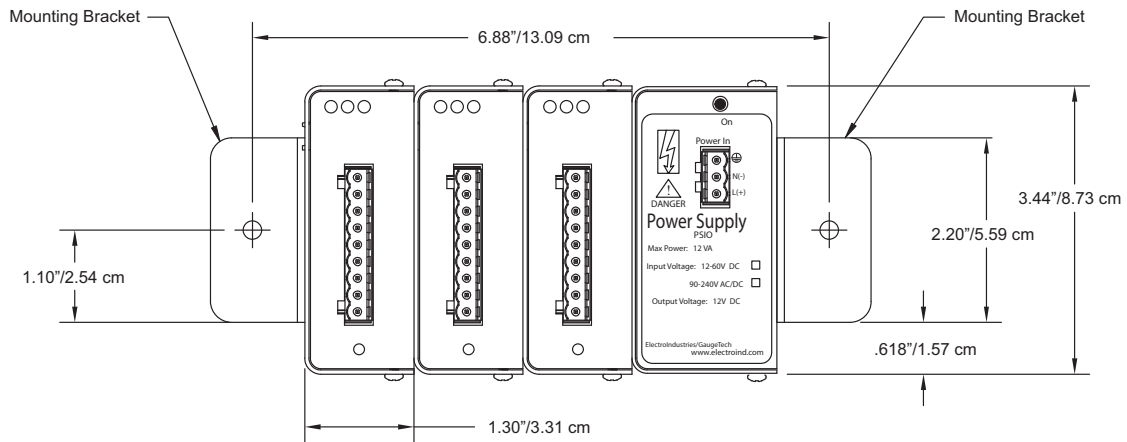

Figure 6.26: I/O Modules Mounting Dimensions, Front View
**IMPORTANT!** The Nexus® 1262/1272 meter does not supply power to the I/O modules. You must use an external power supply, such as the EIG PSIO (12 V Output). Figure 6.26 shows mounting with the PSIO.